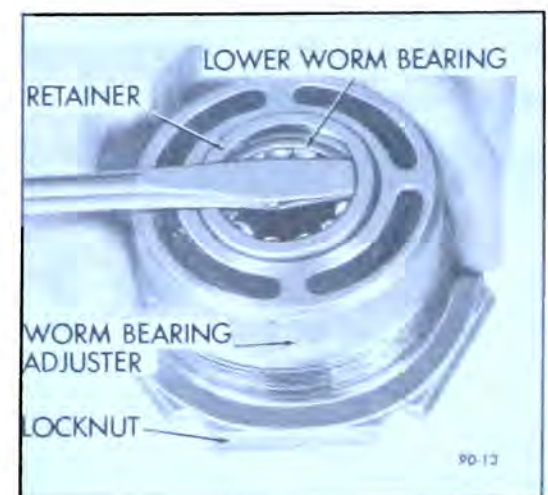

Figure 90-7 Removing Lower Worm Bearing Retainer
9. Remove lower worm bearing from adjuster by prying retainer out with a screwdriver. See Figure 90-7.